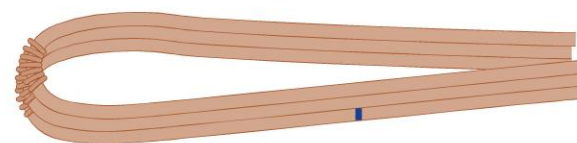

figure 3
- 7 Repeat Step 6 for the third frame wire (Figure 3).